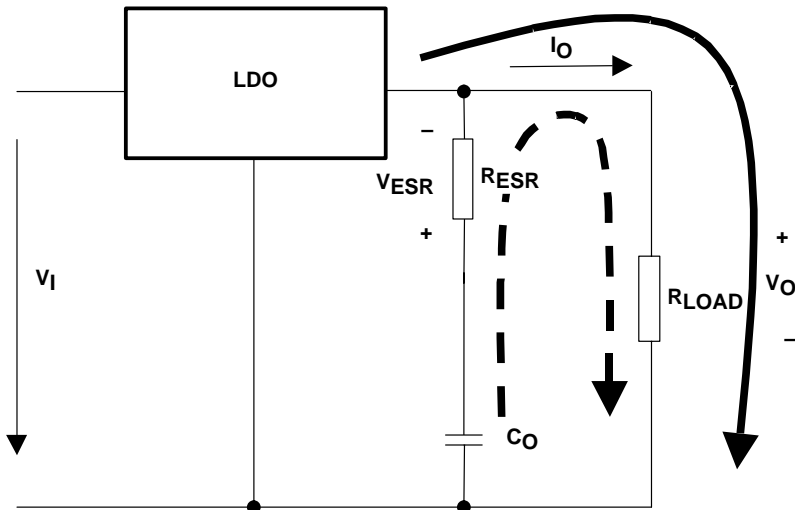
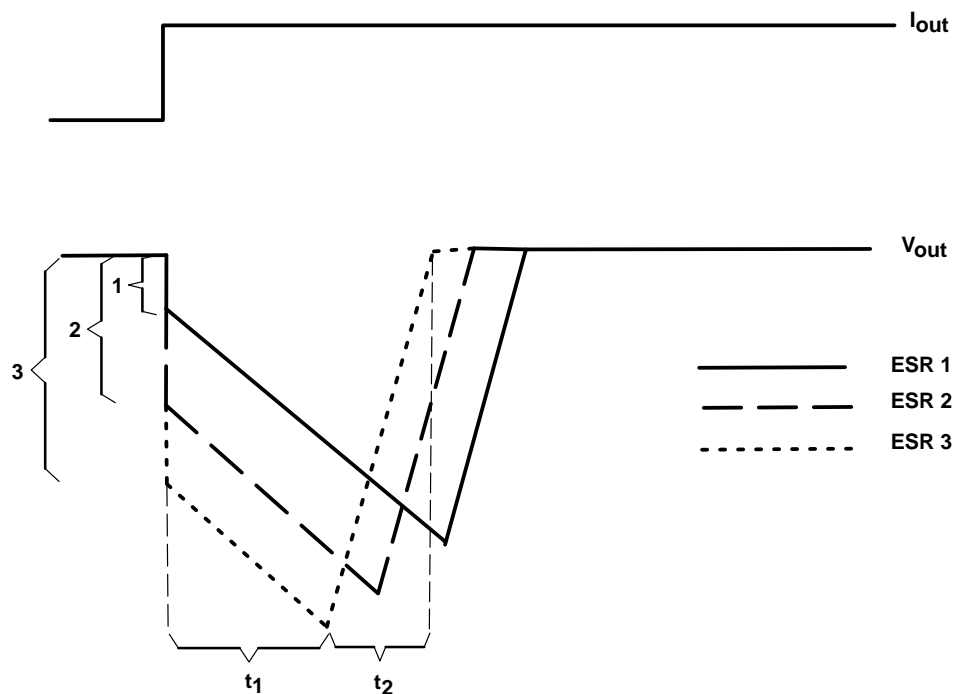

Figure 22. LDO Output Stage With Parasitic Resistances ESR and ESL
Figure 23. Correlation of Different ESRs and Their Influence to the Regulation of V_{out} at a Load Step From Low-to-High Output Current
Figure 22 shows the output capacitor and its parasitic impedances in a typical LDO output stage.
- The LDO is not able to supply the sudden current need due to its response time (t_1 in Figure 23). Therefore, capacitor C_{out} provides the current for the new load condition (dashed arrow). C_{out} now acts like a battery with an internal resistance, ESR. Depending on the current demand at the output, a voltage drop will occur at R_{ESR} . This voltage is shown as V_{ESR} in Figure 22.
- When C_{out} is conducting current to the load, initial voltage at the load will be $V_{out} = V_{C_{out}} - V_{ESR}$. Due to the discharge of C_{out} , the output voltage V_{out} will drop continuously until the response time t_1 of the LDO is reached and the LDO will resume supplying the load. From this point, the output voltage starts rising again until it reaches the regulated voltage. This period is shown as t_2 in Figure 23.